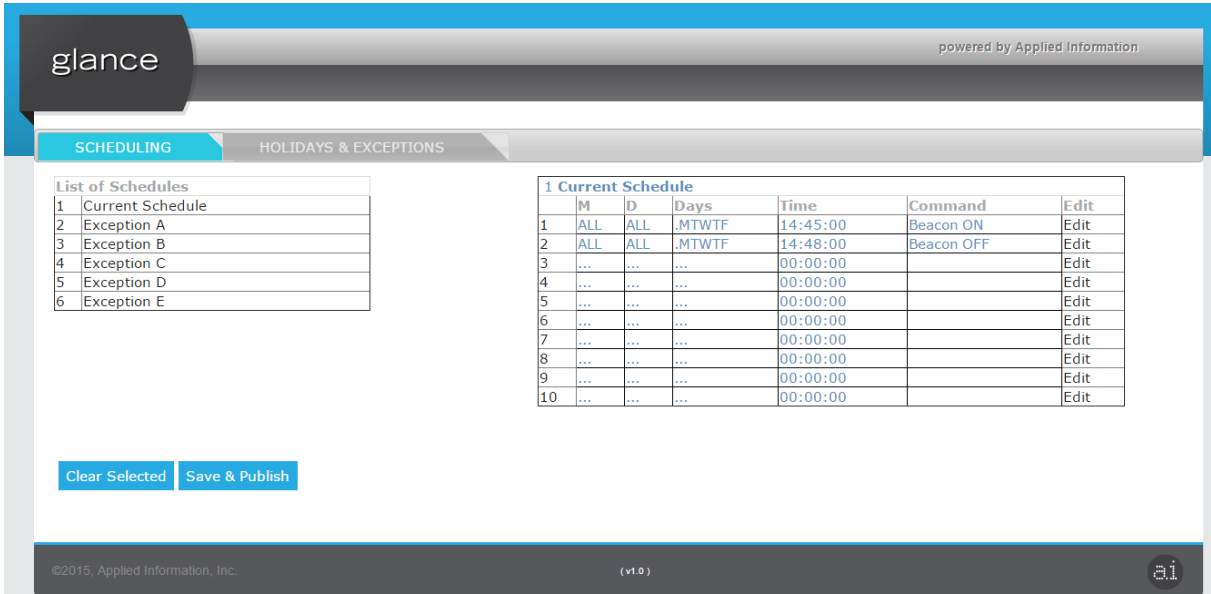

Fig 16: Schedule dialog
10. The edit dialog will be displayed (see Fig 16 below). After editing the row parameters (to turn the beacon on or off at the right time, on the right days) click Save.